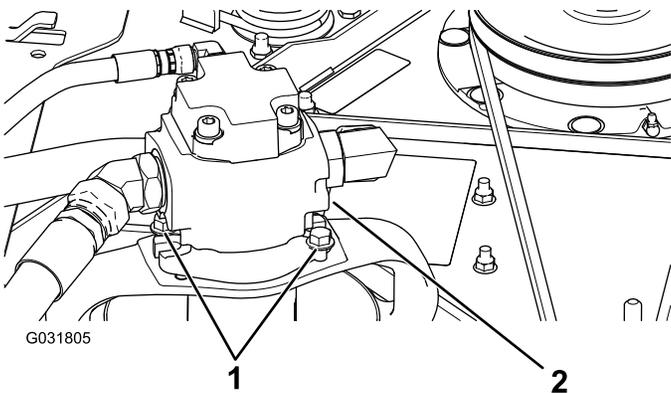

Figure 128
5. Remove the bolts securing the hydraulic motor to the mower deck (Figure 128).
3. Remove the bolts securing the hydraulic motor to the mower deck (Figure 128).